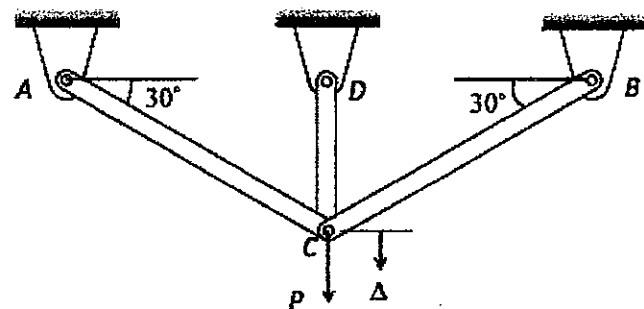

Fig. 4
- The symmetric three-rod truss of Fig. 4 is subjected to a force  $P$  at Point  $C$ . The three circular rods have the same cross sectional area of  $10 \text{ cm}^2$ . Rods  $AC$  and  $BC$  are made of elastic-perfectly plastic steel with a modulus of elasticity of 200 GPa and a yielding stress of 200 MPa. Rod  $CD$  is made of an elastic material with a modulus of elasticity of 100 GPa. The length of Rods  $AC$  and  $BC$  are both 2 meters. The force  $P$  is applied to the truss with its magnitude slowly increased from 0 to 800 kN, and then unloaded from 800 kN to 0. Plot the  $P-\Delta$  curve of this loading and unloading process and mark the X and Y coordinates of each key point of the curve clearly. Use the values of  $\Delta$ , which is the vertical displacement of Point  $C$ , as the X coordinates of the plot and the values of  $P$  as the Y coordinates.